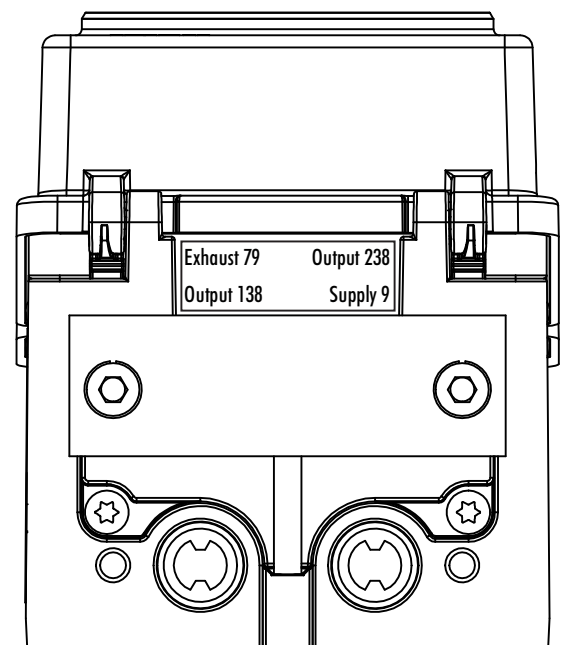

Fig. 5-33: Output 238 and Exhaust 79 sealed with dummy plate
- Seal Output 238 and Exhaust 79 with a dummy plate (see Fig. 5-33) if only one pneumatic output is available.
The signal at output 138 is used to control a single-acting pneumatic actuator. The outputs 238 and 79 are sealed (see Fig. 5-33). The air capacity can be doubled by using two pneumatic modules.